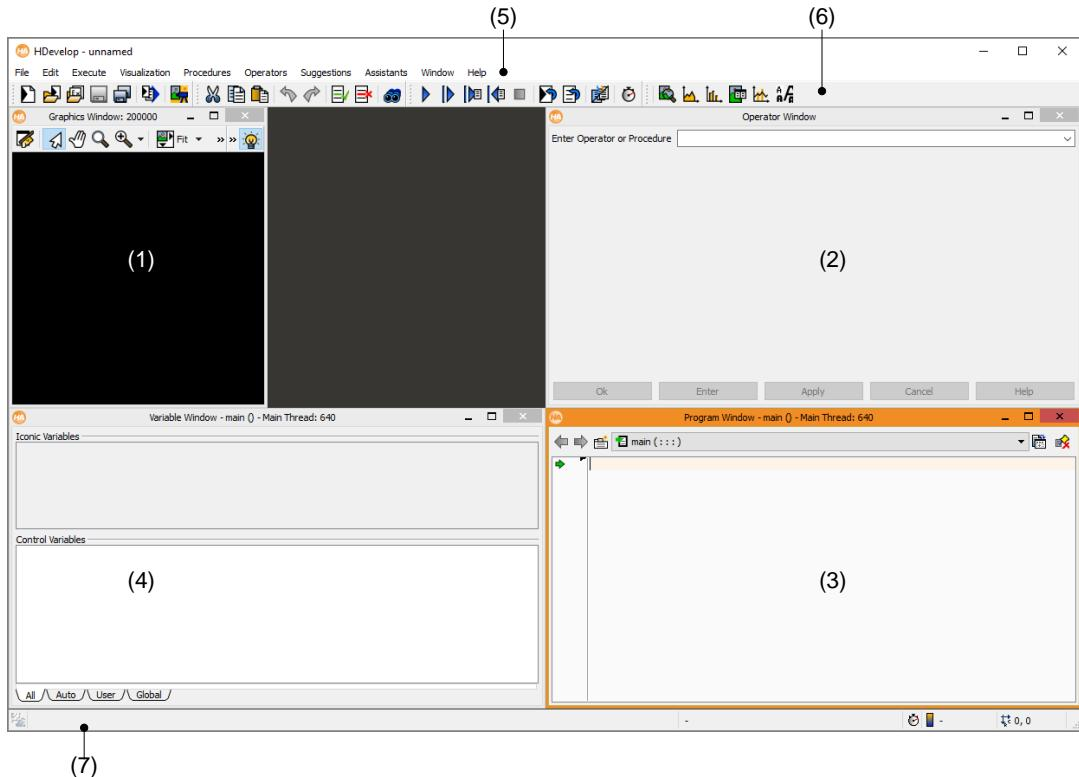

Figure 2.2: User interface: (1) graphics window, (2) operator window, (3) program window, (4) variable window, (5) menu, (6) tool bar, (7) status bar.
When HDevelop is started for the first time it looks similar to figure 2.2. The main window offers a menu (5) and a tool bar (6) for quick access to frequently used functions. The status bar (7) at the bottom of the window displays